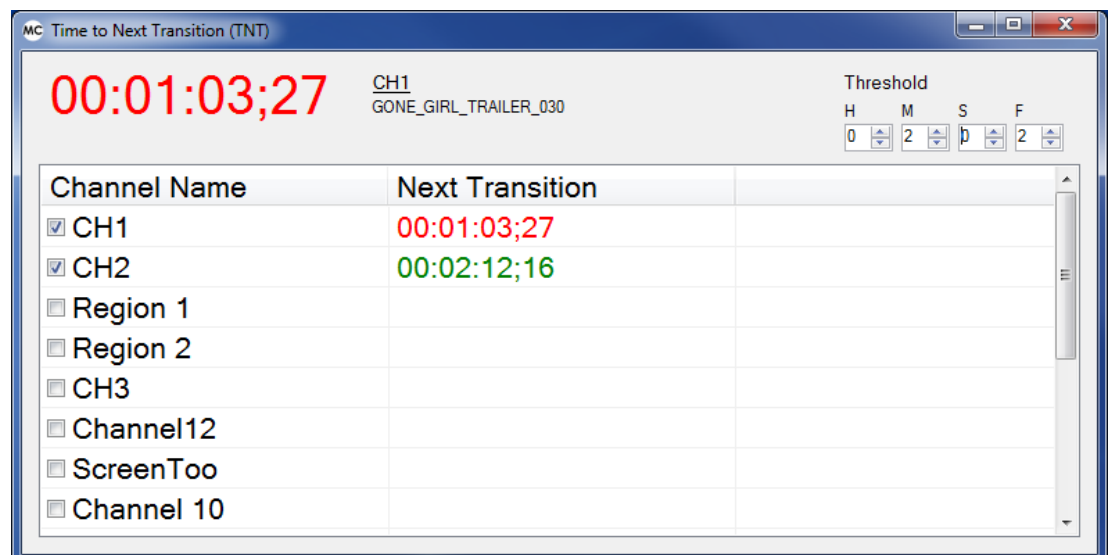

Figure 90 Time to Next Transition Window
1. On the 'Misc' tab, click on **Next Transition For Bridge** - the Time to Next Transition (TNT) window is displayed (Figure 90).